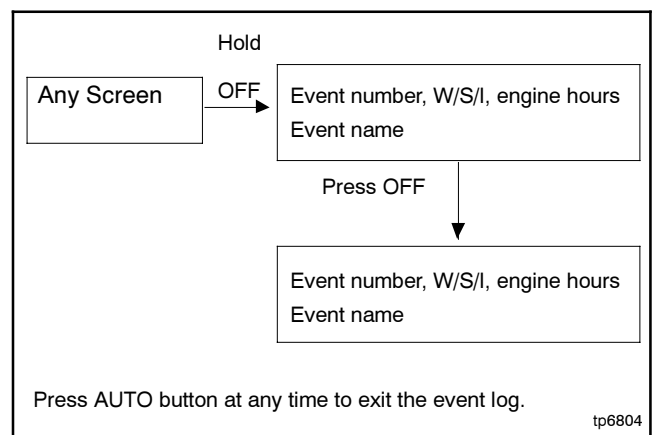

Figure 4-7 Event Log
The event log displays up to 10 controller faults and notices, starting with the most recent event. Events are numbered 1–10, with 1 being the most recent. Each event is displayed with the date and time of the event, the number of the event, a letter to indicate whether the event was a warning (W), shutdown (S), or informational notice (I), the engine hours at the time of the event, and the event description. See Figure 4-7.